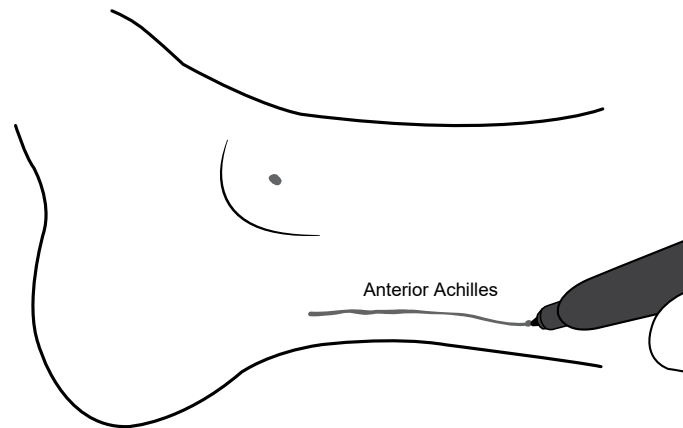

Figure 6. *Marking the anterior border of the Achilles tendon*
4. Locate the Achilles tendon. Mark a line along the length of the anterior border of the Achilles tendon (Figure 6).